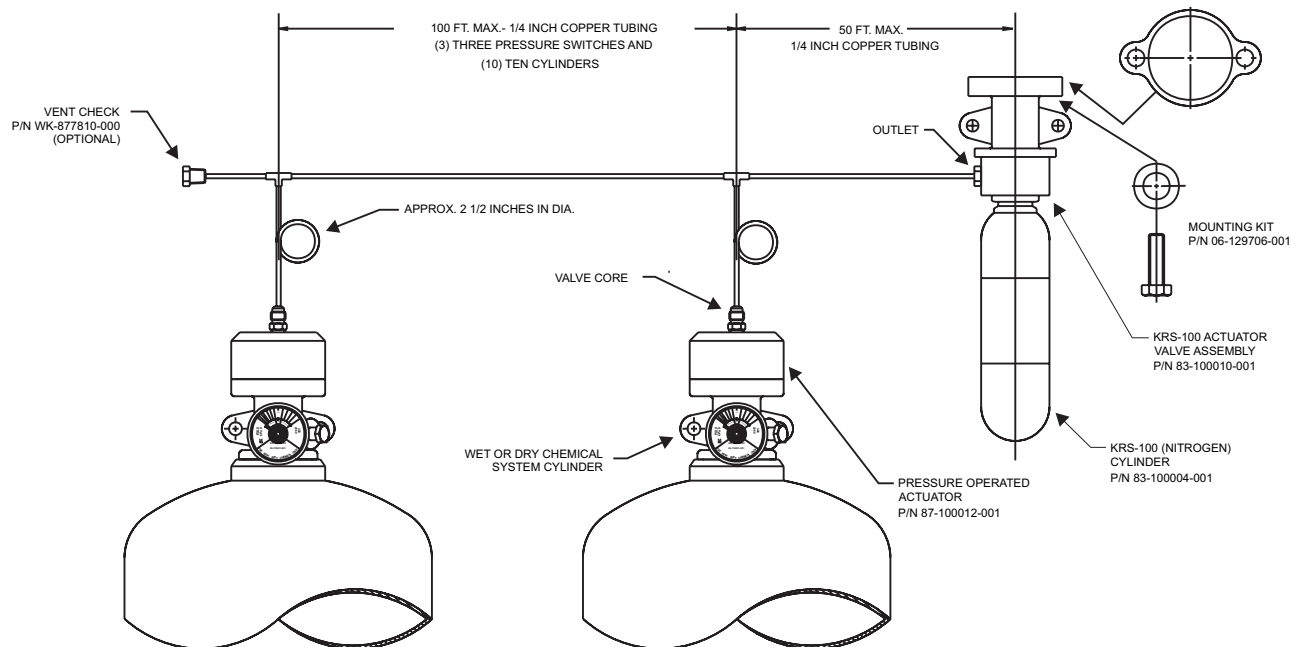
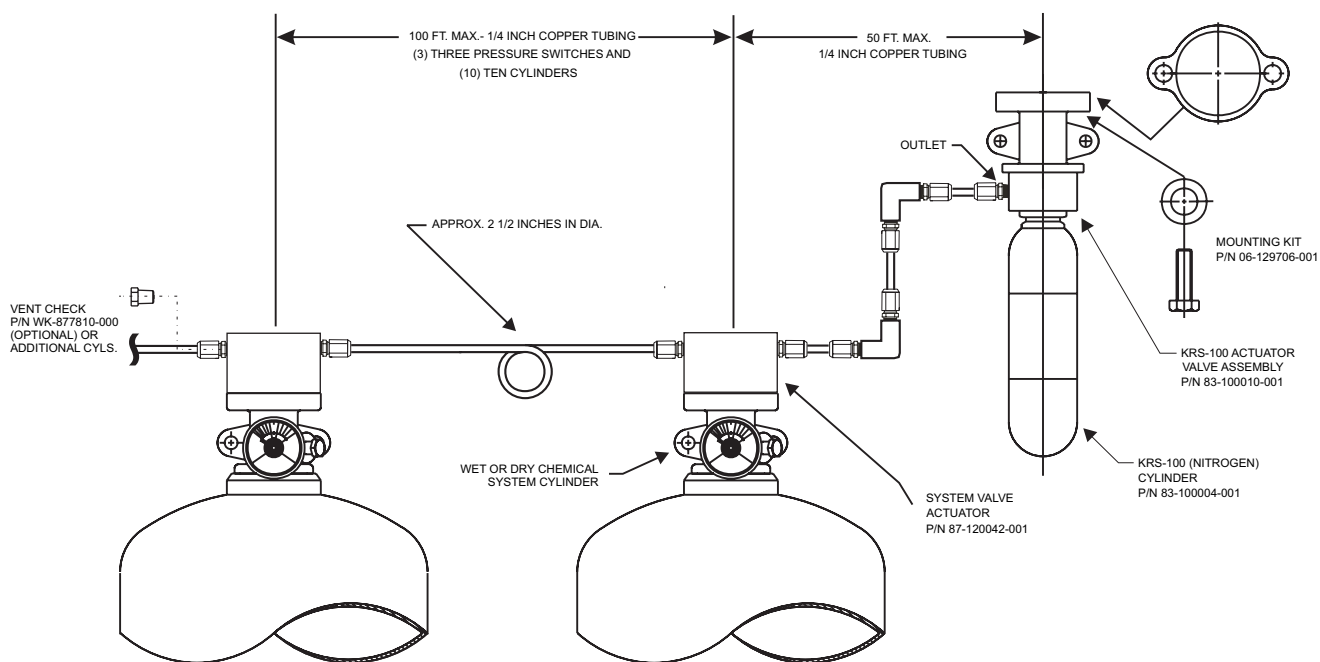

Figure 1. KRS-100 System Detail w/POA 87-100012-001
Figure 2. KRS-100 System Detail w/SVA 87-120042-001
The function of the KRS-100 releasing device is to provide a pressure-operated means for releasing Kidde pre-engineered wet chemical and dry chemical fire-suppression systems. The KRS-100 utilizes the Kidde pre-engineered mechanical, pneumatic rate of rise, electric, and tandem control heads, any of which can be mounted on the KRS-100 actuator valve assembly. The release is accomplished using KRS-100 cylinder pressure discharged through copper tubing into pressure-operated actuators (P/N 87-100012-001 or 87-120042-001) located on Kidde pre-engineered wet or dry chemical system cylinders. (See Figure 1 and Figure 2.)
Note: Pressure in the pressure-operated actuator must be released before removing the actuator from the agent storage cylinder. (See Figure 1.)
2. Ensure the safety pin is in place on the actuator valve assembly. See Figure 2.
5. Ensure that safety pin is in place on the actuator valve assembly. If the pin cannot be placed in the actuator, verify that control head is **SET**. See Figure 2.